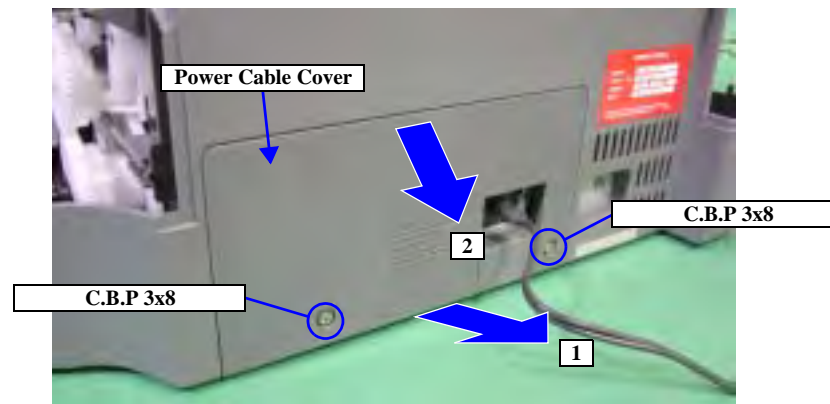

Figure 4-42. Printer Mechanism Removal 2
4. Follow the order shown in Figure 4-42 to remove the Power Cable Cover from the Lower Housing.